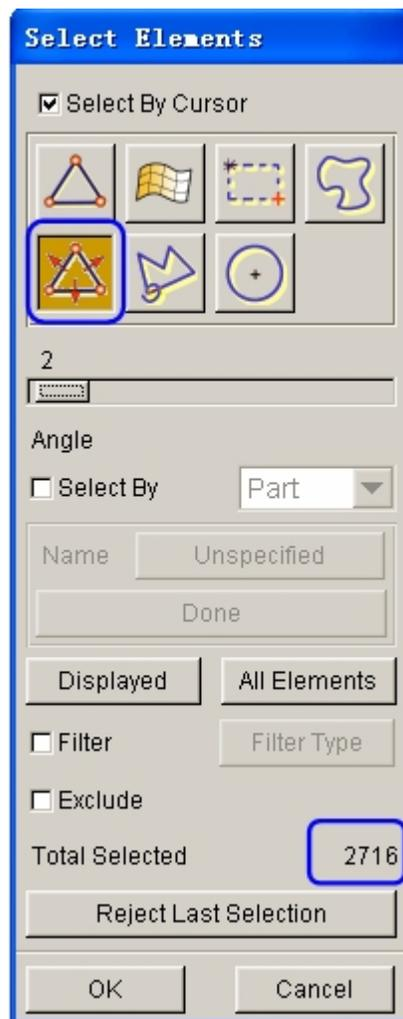

Figure 1.27 Select binder elements
21. Click the **Spread** icon illustrated in Figure 1.27. Then, move the slider bar to set the spread angle as 2° . Next, use the mouse cursor to pick an element on the binder surface. The elements on binder surface are highlighted, as illustrated in Figure 1.28. As illustrated in Figure 1.27, 2716 elements have been selected.